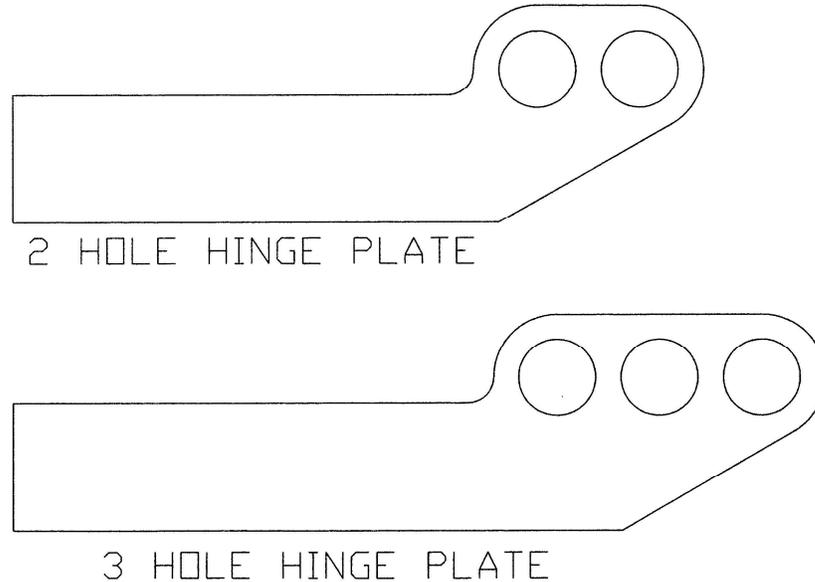

FIGURE 29
Step 1: Inspect hinge plate, which is welded to the base plate at the hopper pivot, to determine if your machine has two or three holes. See Figure 29. Guns built in 2006 or after should have the 3 hole hinge plate.